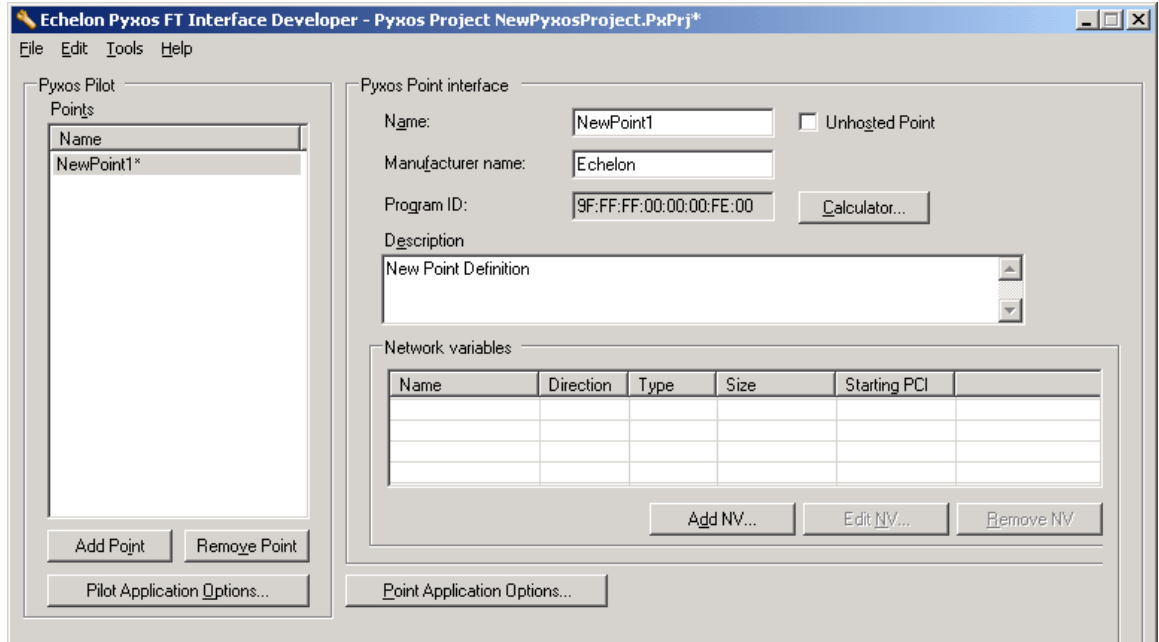

Figure 6 Pyxos FT Interface Developer Window
2. Click **Create New Project** to start a new Pyxos FT network project, and then enter a name for the project in **Name**. Specify the location where the project files are to be stored in **Location**, and then click **OK** to create the project. The window shown in Figure 6 opens.